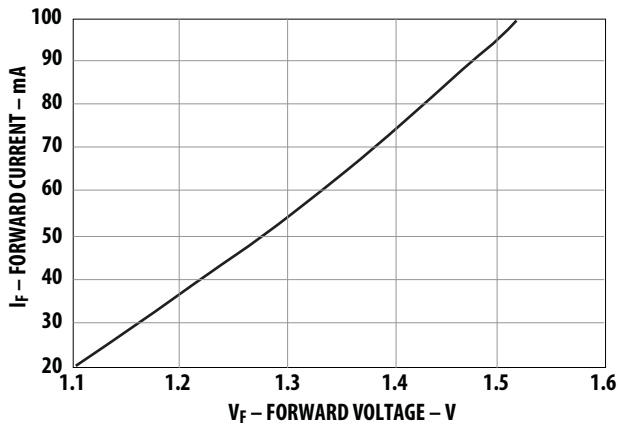

Figure 3. Typical forward voltage and current characteristics.
- Optical rise and fall times are measured from 10% to 90% with 62.5/125  $\mu\text{m}$  fiber. LED response time with recommended test circuit (Figure 3) at 25 MHz, 50% duty cycle.